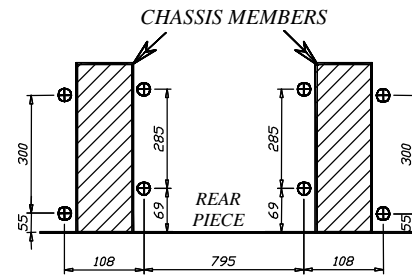
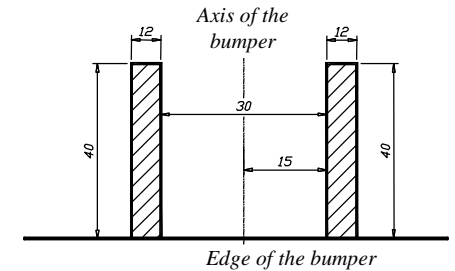

Fig. 2 View from the bottom of the car (after take off the bumper)
Fig. 3
2. From the bottom of the car mark points according to fig. 2. Next drill holes using bit $\varnothing 11\text{mm}$, make it very carefully.
3. Inside the trunk put suitable upper fish-plates (pos. 8) on to made holes.
4. From the bottom of the car put side brackets (pos. 4 and 5) and through holes (pos. A) and fish-plates (pos. 8) fix using bolts M10x35mm (pos. 11).
5. From the bottom of the car put fish-plates (pos. 6 and 7), next through holes (pos. B) and fish-plates (pos. 8) fix using bolts M10x35mm (pos. 11) .
6. Through holes (pos. C) fix main bar of the towbar (pos. 1) with side brackets using bolts M12x35mm (pos. 10).
8. Install the bumper after cut out of its fragments (see fig. 3).
9. Fix tow-ball (pos. 2) and socket plate (pos. 3) by bolts M12x75mm (pos. 9) from accessories.